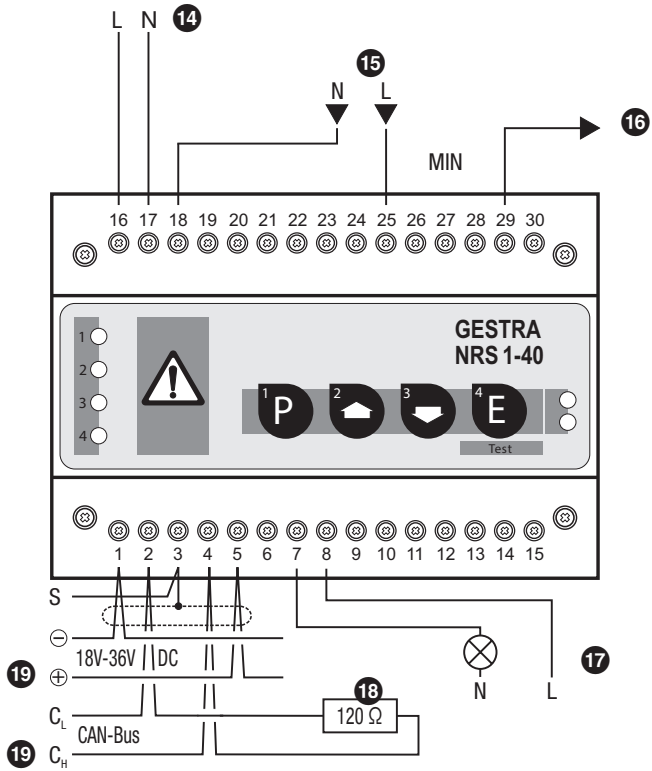

Fig. 8
- In the event of a shut-down caused by malfunction the signal output (terminals 7 and 8) is opened and closed in a clock-pulse controlled way in order to ensure an optical differentiation between “Low water level” (signal output permanently closed) and “Shut off due to a malfunction”. If required you can wire terminals 7 and 8 with an external signal lamp, **Fig. 8**.